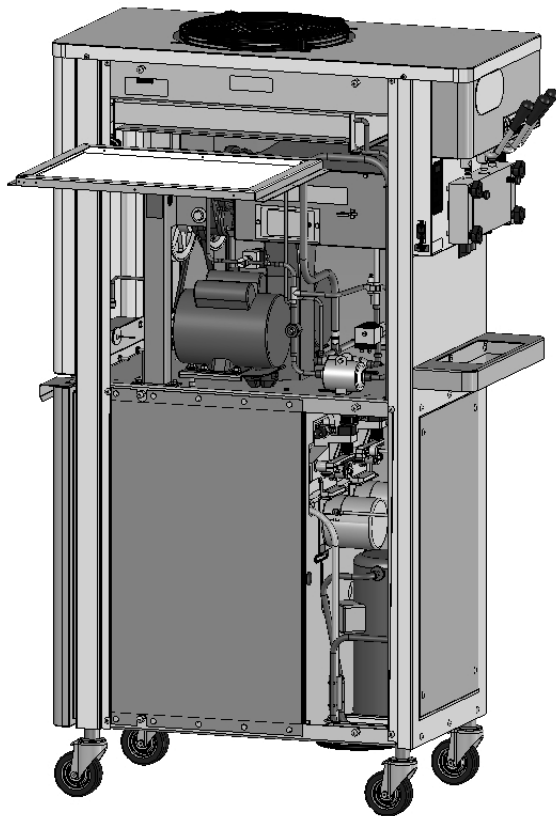

Figure 4-4 Removing Condenser Filter
- A. Remove the side panel and pull out the condenser filter. (Fig. 4-4)